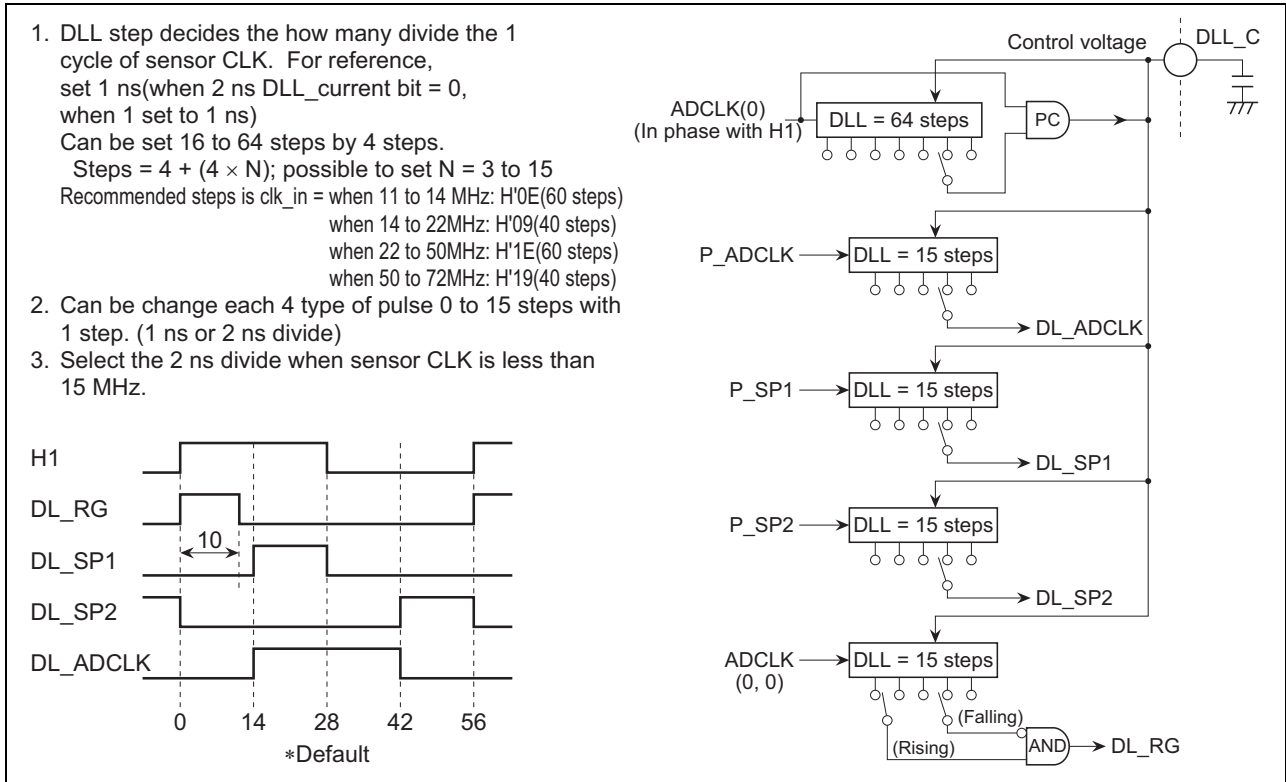

Figure 15 Analog Delay (DLL) Circuit Block.
- Then select the necessary delay time from figure 15.